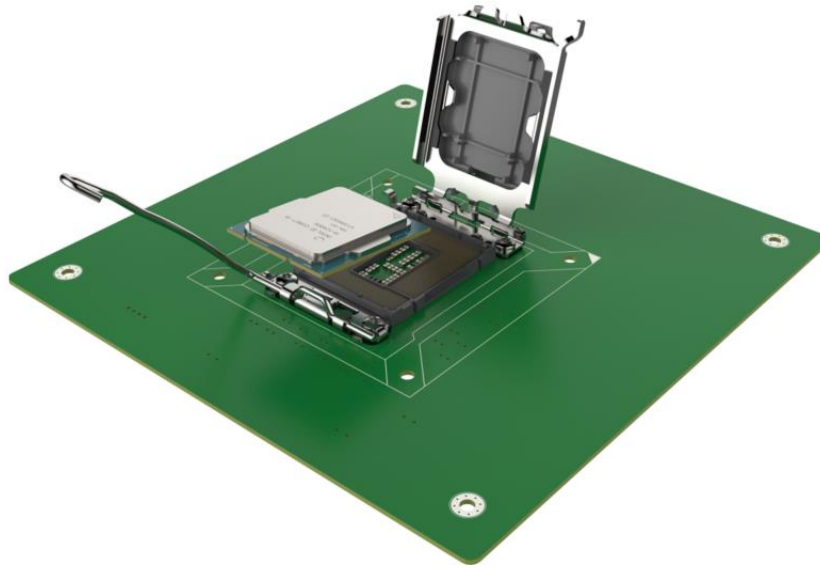

Figure 4-3: Insert the Socket LGA1700 CPU
Step 7: **Insert the CPU.** Gently insert the CPU into the socket. If the CPU pins are properly aligned, the CPU should slide into the CPU socket smoothly. See **Figure 4-3**.